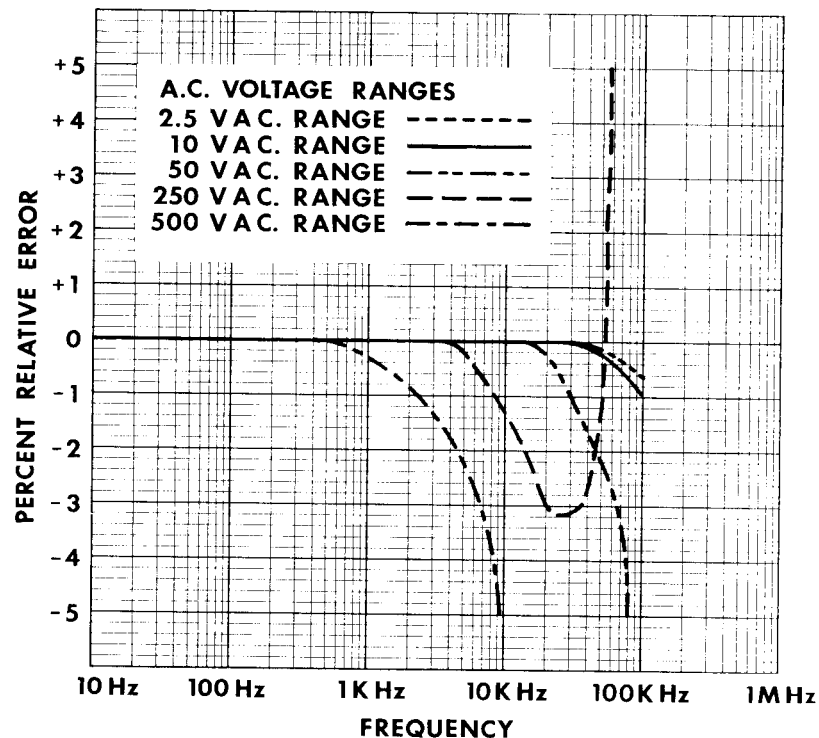

FIGURE 4-2. FREQUENCY RESPONSE, AC VOLTAGE RANGES
**4.10.1** The 260 responds to the average value of an AC waveform. It is calibrated in terms of the rms value of a pure sine wave. If the waveform is nonsinusoidal, and depending upon its waveform, the reading may be either higher or lower than the true rms value of the measured voltage. Thus an error may be introduced if the 260 is used to measure a nonsinusoidal waveform. Also, accuracy is lessened at higher input frequencies (Figure 4-2).